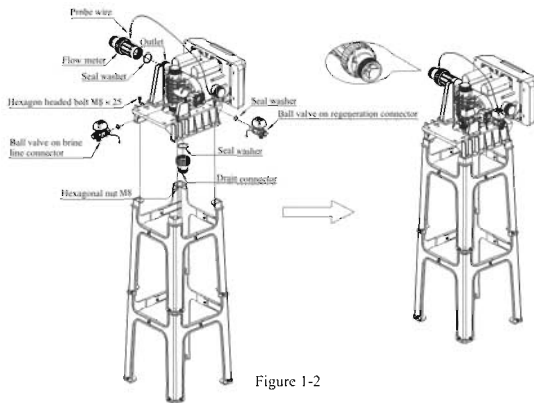
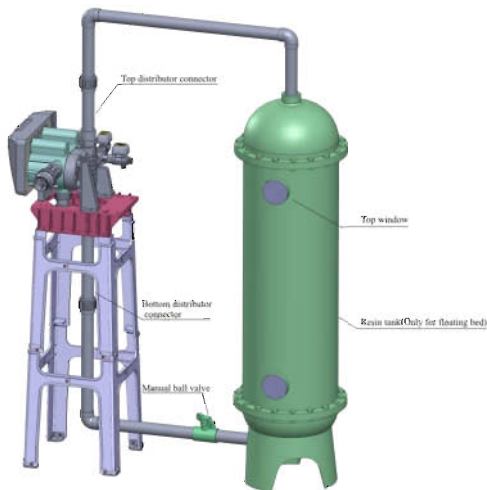

Figure 1-2
Figure 1-3
- As Figure1-2 shows, use the 4 pieces of hexagon bolts (M8*25) to install control valve on the seat frame.
- As Figure1-2 shows, put the sealing ring into flow meter connector, screw in water outlet; insert the sensor into flow meter.(Without this step when the control valve is time clock type)
- As Figure1-2 shows, when install the brine line connector ball valve and regeneration connector ball valve, it need to put in the sealing ring.
- As Figure1-2 shows, Insert drain line flow control into drain hose connector, then crew it into drain outlet, and lock it.
②Installing resin tank and top/bottom distributor
- Top and Bottom distributor pipeline connection is like Figure 1-3.(Install a manual ball valve between bottom distributor and tank.